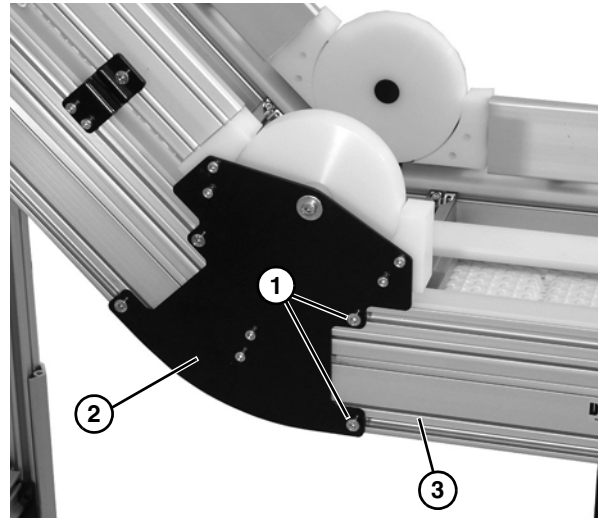

Figure 9
2. Attach lower knuckle to frame by loosening two socket head cap screws (**Figure 9, item 1**) on each side of lower knuckle assembly (**Figure 9, item 2**), and sliding T-Nuts into straight frame section (**Figure 9, item 3**).